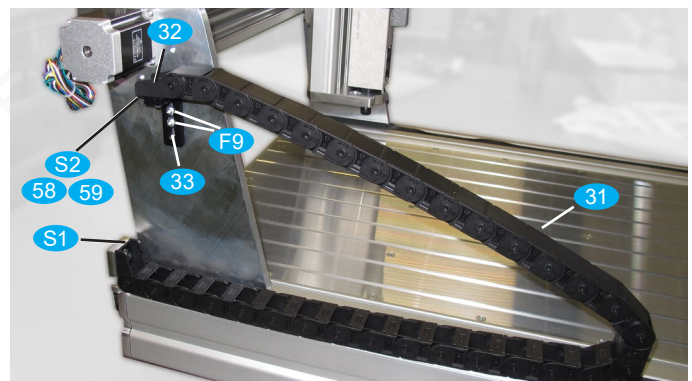

Fig. 37: Assembly of the drag chain for the Y axis
- Mount the mounting bracket 33 with flat-head screws F9 on the right portal plate, as shown in Fig. 37.
Hang the Y-drag chain in the connection kit and fasten the free end to the rear face plate using the connection kit and countersunk screws S1, as shown in Fig. 37.